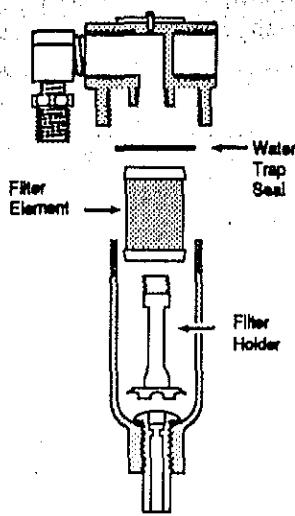

Figure 9-1
5. Remove the bowl from the Air Water Trap (Figure 9-1).
8. Turn the filter holder counterclockwise and remove from housing. Discard old filter element (Figure 9-1).